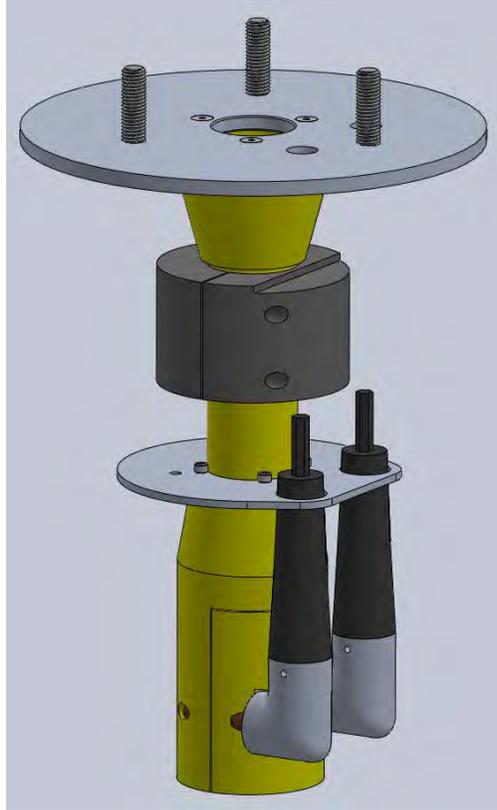
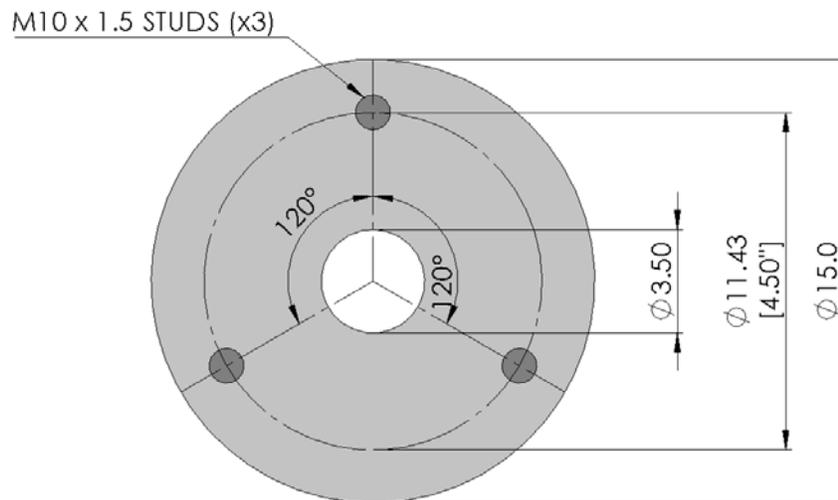

Figure 7. Organizer-provided transition piece (stub) between the student tubing and turbine. *Image created by Jason Roadman, NREL*
Figure 10. Base flange dimensions for wind turbine attachment to tunnel (dimensions in centimeters).
- The competition organizers will provide a “stub” or “transition piece” that will connect the top of the foundation structure to the place in the wind tunnel where the mounting plate was located in previous years. Figure 6a, Figure 7, and Figure 10 and show depictions of the stub and interface method for the student turbines. The bolt pattern of Figure 10 matches the small tunnels and previous competitions. The stub weighs 4.6 pounds.
- Three tunnels will be available in this year’s competition: two small tunnels and the larger competition tunnel. The smaller tunnels will have the existing base plates as in previous years (see Figure 10). The student-provided foundation structure will not be used in the smaller practice tunnels. It is for this reason that a consistent mounting pattern is used between all three tunnels for the turbine baseplate.
- The turbine base plate must be constructed of material no thicker than 16.1 mm. It should be designed and constructed with adequate tolerances to smoothly fit over three studs, where it will be secured to the tunnel base flange/mounting stub with wingnuts. Figure 10 shows the bolt pattern and sizing of this flange and the dimension for the hole in this base flange to allow cables and connectors to pass through.